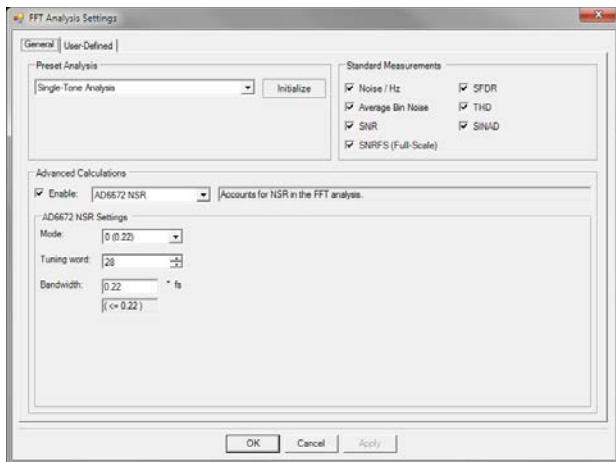

Figure 17. VisualAnalog, FFT Analysis Settings for AD6672
- Configure the settings in the FFT analysis to match the settings selected for the NSR in the SPI controller (see Figure 17).